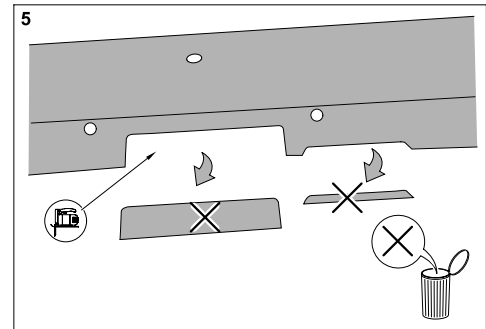

Fig. 5 : Bumper bracket with cutout and chamfer
14.) Cut out bumper bracket in the area of the ball rod corresponding to the marking. Make chamfer 4 x 45 ° over a length of 80 mm on the lower edge of the bumper bracket in the area of the socket ( opposite the marking on the left on the upper side of the bumper bracket ), see Fig. 5.